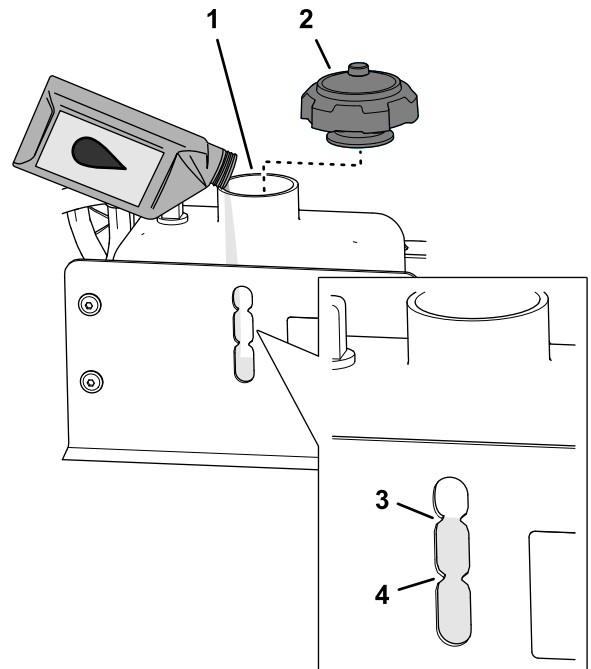

Figure 99
3. Check the hydraulic fluid level in the tank (Figure 99).
- A. Remove the cap (Figure 99).
- B. Add the specified hydraulic fluid until it is level with the full mark of the fluid-level window (Figure 99); refer to Hydraulic Fluid Specification (page 70).
- C. Install the cap (Figure 99).